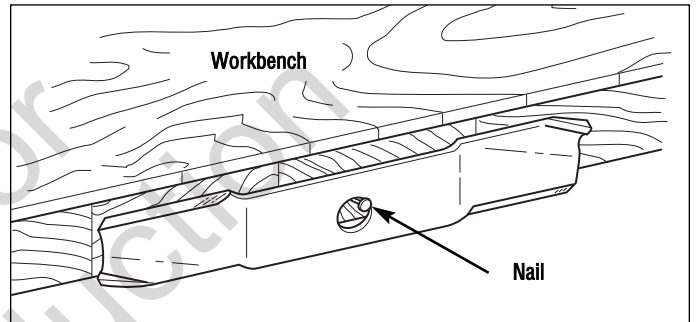

Figure 27. Balancing The Blade
5. Balance the blade as shown in Figure 27. Center the blade’s hole on a nail lubricated with a drop of oil. A balanced blade will remain level.